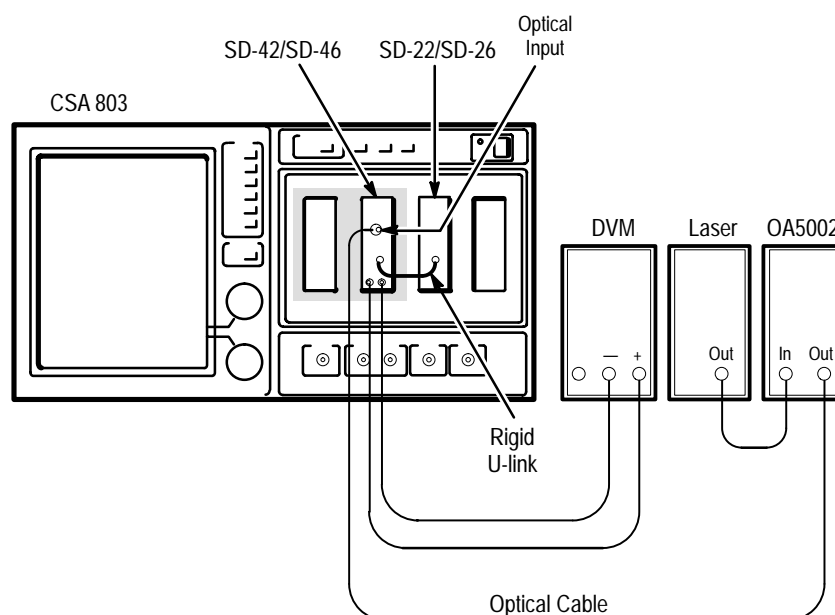

Figure 3-1: Setup to Check Optical Power Monitor Operation
1. Connect the equipment as shown in Figure 3-1.